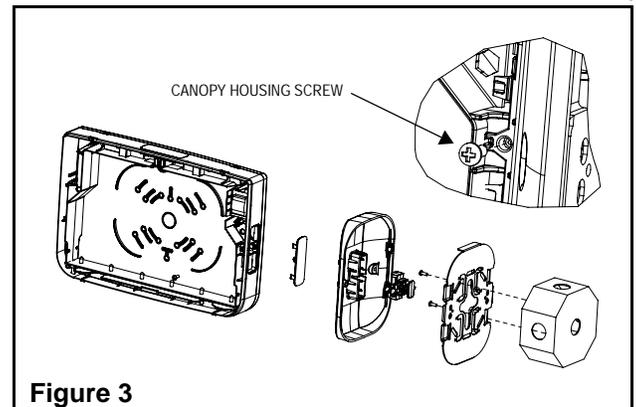

Figure 3
- a. Canopy required. Attach the spider plate to electrical box with the junction box screws. Remove appropriate hole plug. Feed AC supply leads through side or top opening and then through canopy. Snap canopy on top or side of frame (See Fig. 3). Screw canopy to frame(11). In the case where a canopy lock is supplied, you may